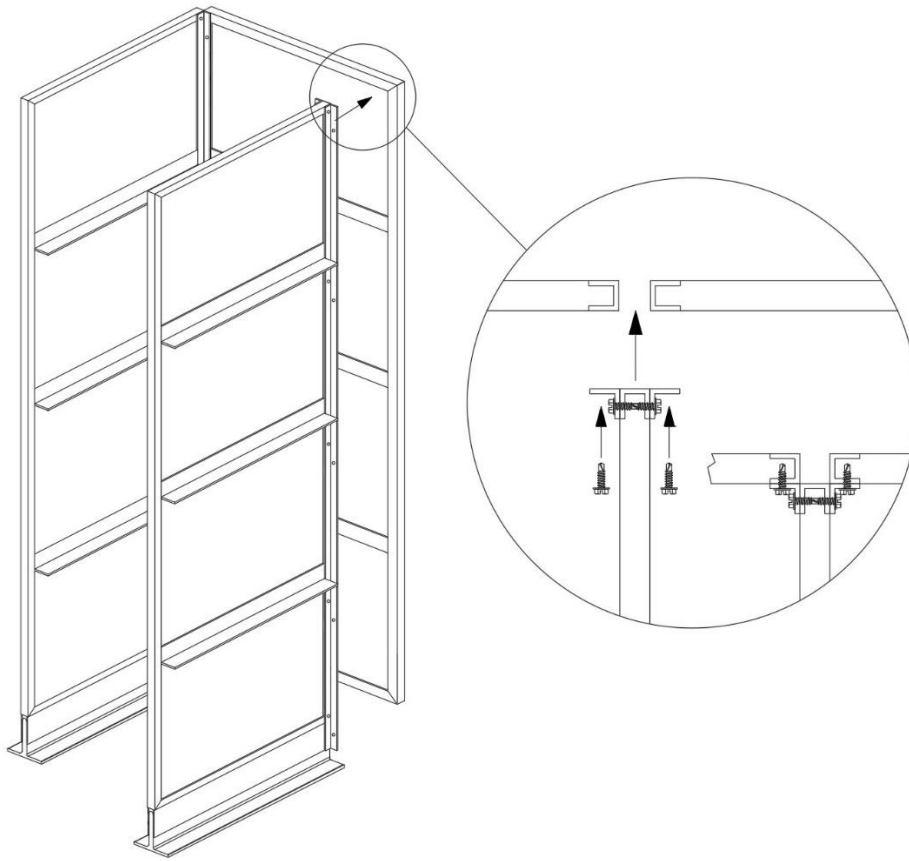

Figure 8
9. Position the next division panel in place and connect with the #10-32 x 5/8” TEK screws provided. See Figure 8.